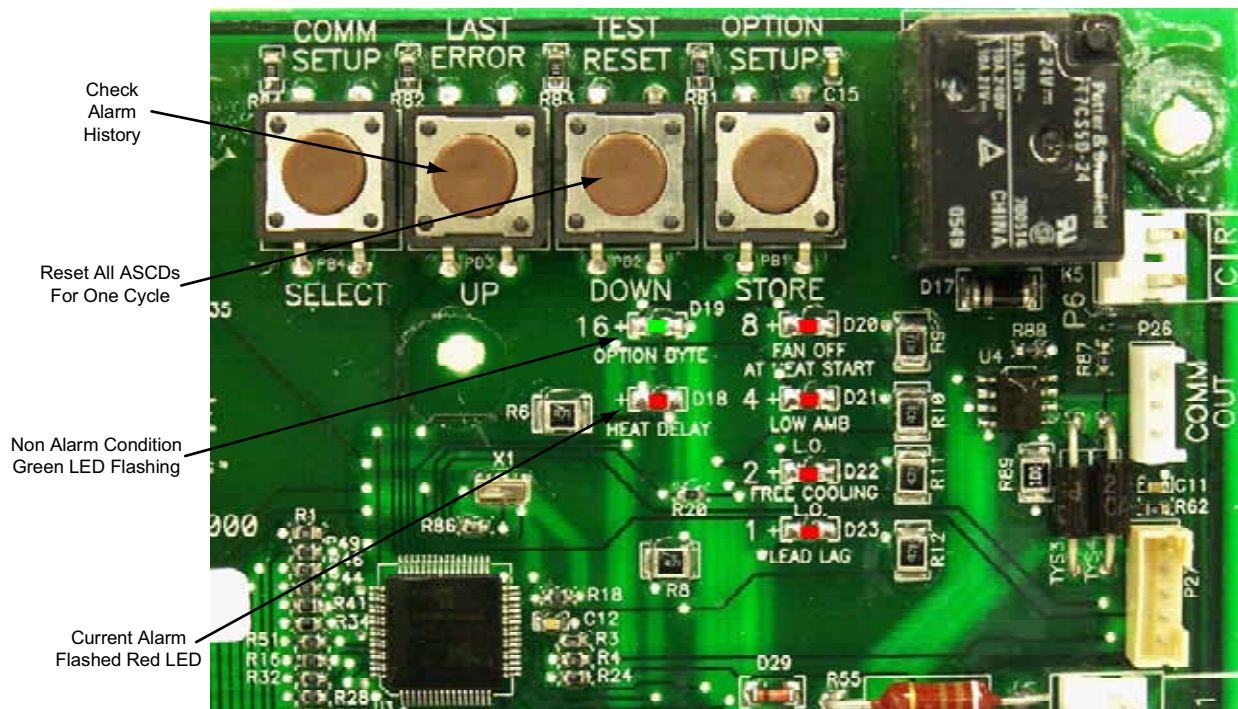

Figure 30: Unit Control Board
Alarm condition codes are flashed on the UCB lower left Red LED, See Figure 30. While the alarm code is being flashed, it will also be shown by the other LEDs: lit continuously while the alarm is being flashed. The total of the continuously lit LEDs equates to the number of flashes, and is shown in the table. Pressing and releasing the LAST ERROR button on the UCB can check the alarm history. The UCB will cycle through the last five (5) alarms, most recent to oldest, separating each alarm flash code by approximately 2 seconds. Flash code 21 is a non-